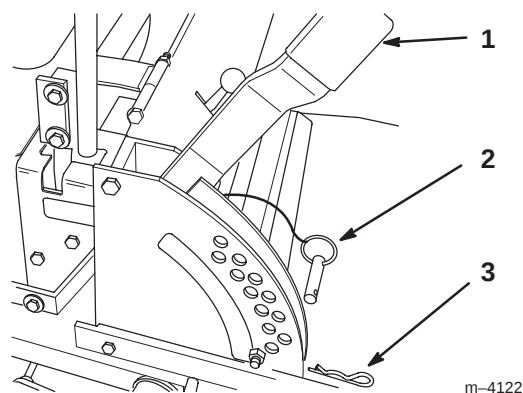

Figure 25
1. Raise the height-of-cut lever to the transport position (also the 4-1/2 inch (114 mm) cutting height position) (Fig. 25).
2. To adjust, remove hairpin cotter and clevis pin from height-of-cut bracket (Fig. 25).
3. Select hole in height-of-cut bracket corresponding to the height-of-cut desired, and insert clevis pin (Fig. 25).
4. Secure clevis pin with hairpin cotter (Fig. 25).